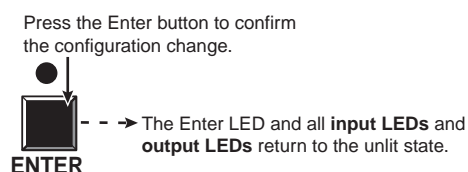

Figure 3-20 — Press the Enter button
5. Press and release the Enter button (figure 3-20).